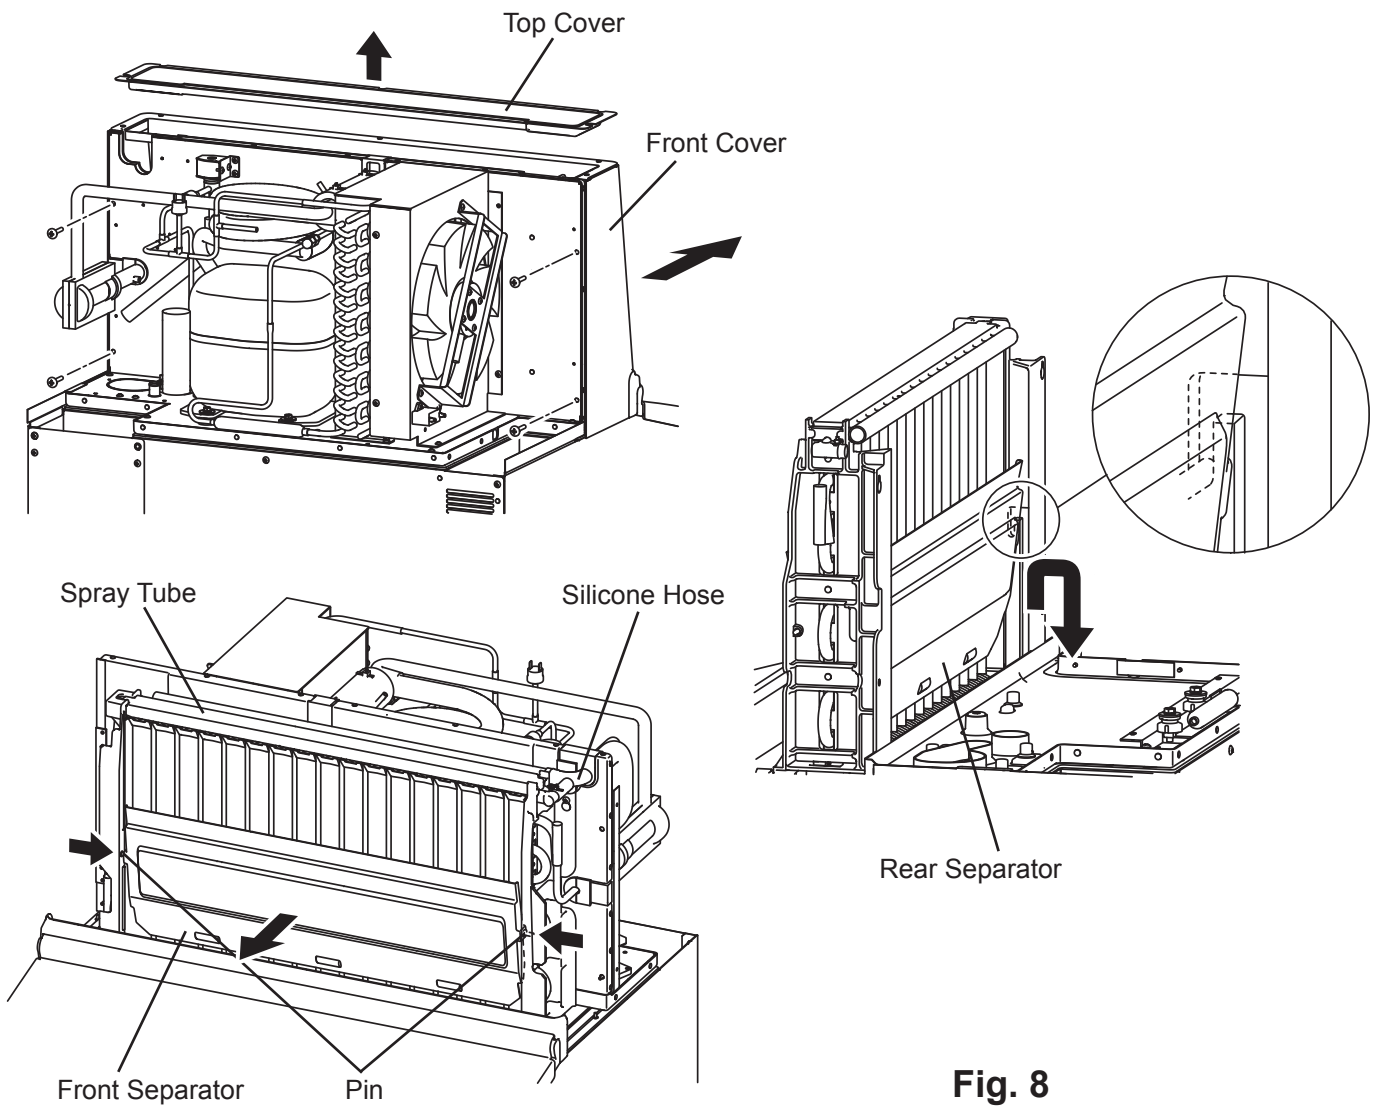

Fig. 8
3) Remove the top cover and front cover. See Fig. 8.
- 5) Remove the front separator by pushing the pins inserted into both sides of the evaporator bracket toward the center. See Fig. 8.
- 6) The rear separator is hooked on the groove in the evaporator bracket. Remove the rear separator by lifting it up and down. See Fig. 8.